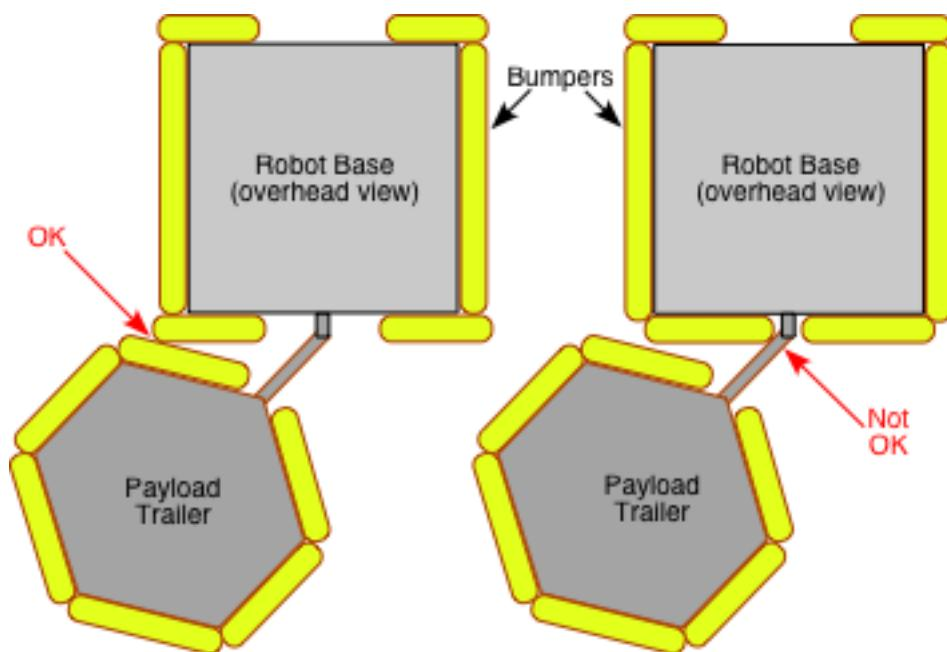

Figure 8-6
- E. The Trailer Hitch must be placed such that, as the TRAILER swings from side to side, the first contact between the TRAILER and ROBOT is BUMPER-to-BUMPER and not TRAILER-tongue-to-BUMPER (to prevent placing excessive stress upon, and possibly damaging, the TRAILER tongue). See Figure 8-6.
<R42> The 12V battery, the main 120-amp circuit breaker, and the Power Distribution Board shall be connected as shown in Figure 8-6. In particular: